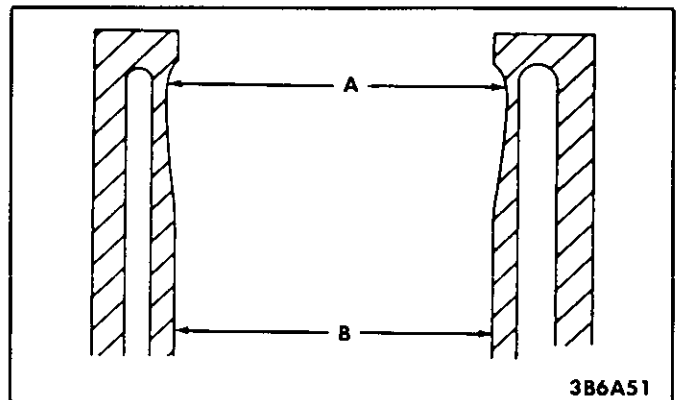

Figure 53 Cylinder Wear Pattern
- If the bore is worn beyond limits (Figure 53), it may be re-bored, honed and fitted with oversize pistons. The smallest available oversize should be selected (refer to Piston Fitting).